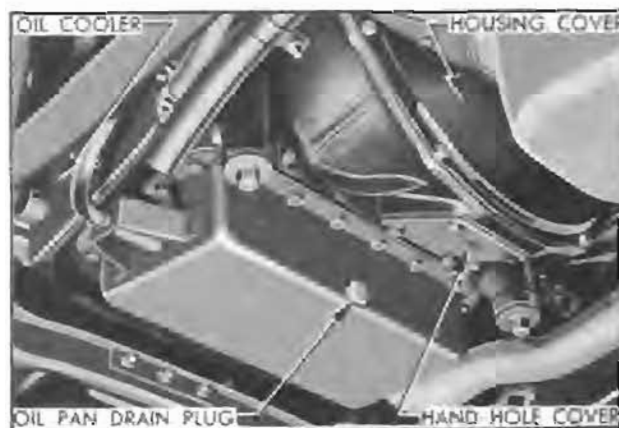

Figure 4-70—Right Side of Dynaflow Transmission Installation
4. Remove bell housing cover and bell housing hand hole cover. See figure 4-70.